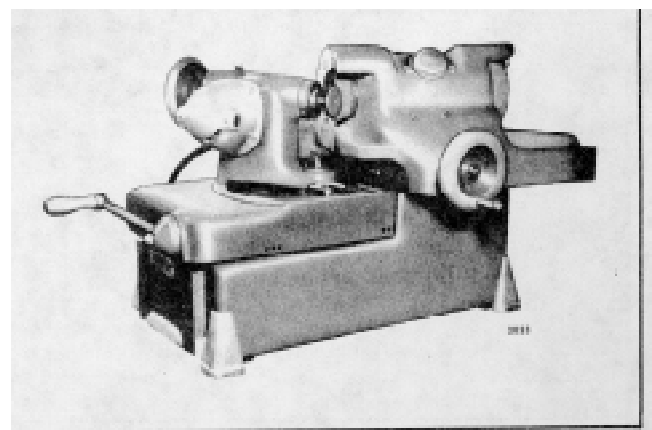
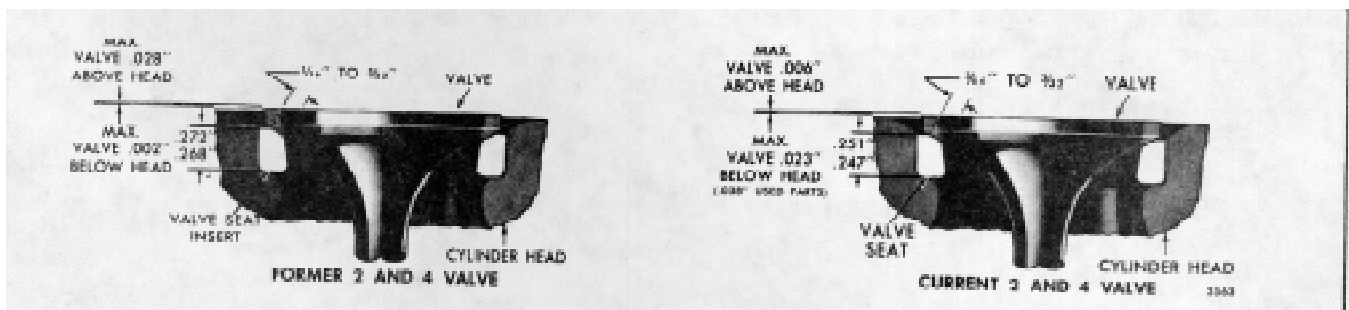

Fig. 14. Refacing Exhaust Valve
Fig. 16. Relationship Between Exhaust Valve, Insert and Cylinder Head
Reface an exhaust valve which is to be reused as shown in Fig. 14. The edge of the valve at the valve head must not be less than 1/32" in thickness and still be within the specifications shown in Fig. 16, after refacing.
3. Grind the top surface of the insert with the 15° wheel to narrow the width of the seat to the dimensions shown in Fig. 16.
The maximum amount the exhaust valve should protrude beyond the cylinder head (when the valve is in the closed position), and still maintain the proper piston-to-valve clearance, is shown in Fig. 16. Grinding will reduce the thickness of the valve seat insert and cause the valve to recede into the cylinder head. If after several grinding operations, the valve recedes beyond these limits replace the valve seat insert.
**NOTE:** After the valves have been installed, make sure that none of the valve heads protrude more than the limits shown in Fig. 16 above the surface of the cylinder head when the valves are fully closed.